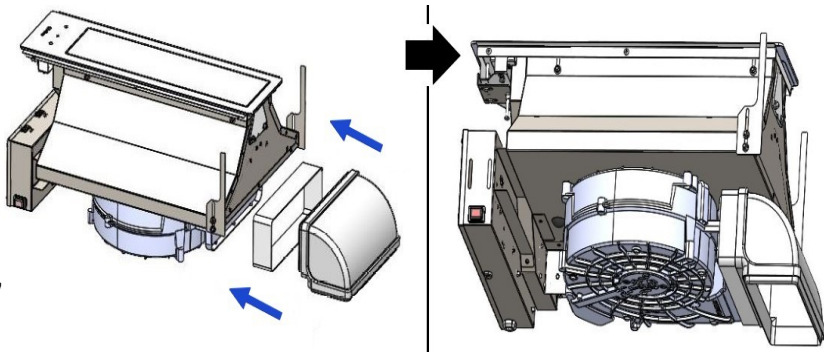

Fig. 7
- Install the ducting connection pieces supplied with the downdraft (shown in Fig.7). Additional ducting will need to be purchased separately depending on your chosen installation type.